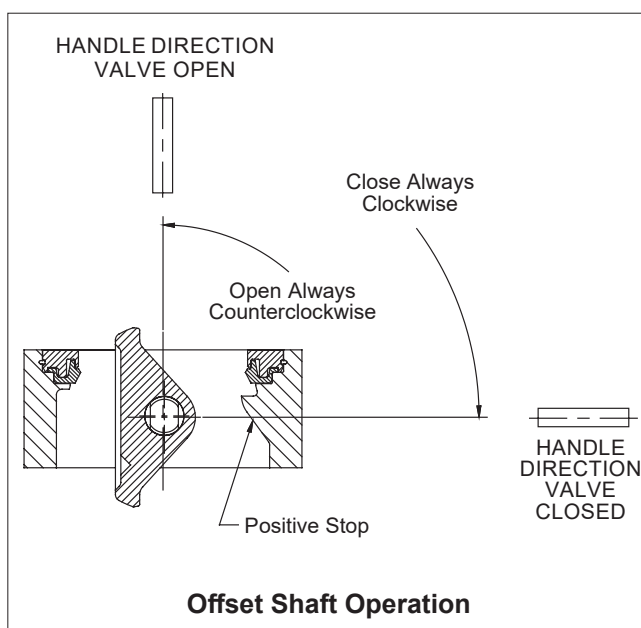

Figure 1.
One of the design features of the *Wafer-Sphere* valve that is responsible for its superior performance is the valve's offset shaft design. The shaft is offset in two planes: (1) away from the valve disc centerline and (2) behind the disc sealing plane (See Figure 1). Offset shaft design makes the rotating disc "cam" back and away from the seat, completely eliminating the usual wear points at the top and bottom of the seat. Because the disc rotates off the seat in an eccentric arc, it operates in one quadrant only (See Figure 1).
To prevent seat damage from over-travel of the disc beyond the closed position (usually during field mounting of a handle or actuator), a "positive stop" feature has been designed into the *Wafer-Sphere* butterfly valve. The "positive stop" feature also makes it possible to adjust the actuator travel stops in-line. The location of this feature is shown in (Figure 1).
4. Before installing a closed valve in the pipeline, be sure that the handle or actuator is attached so that a counter-clockwise rotation, viewed from above, opens the valve (**See Figure 1**). Fully close the valve again before installing in the pipeline.